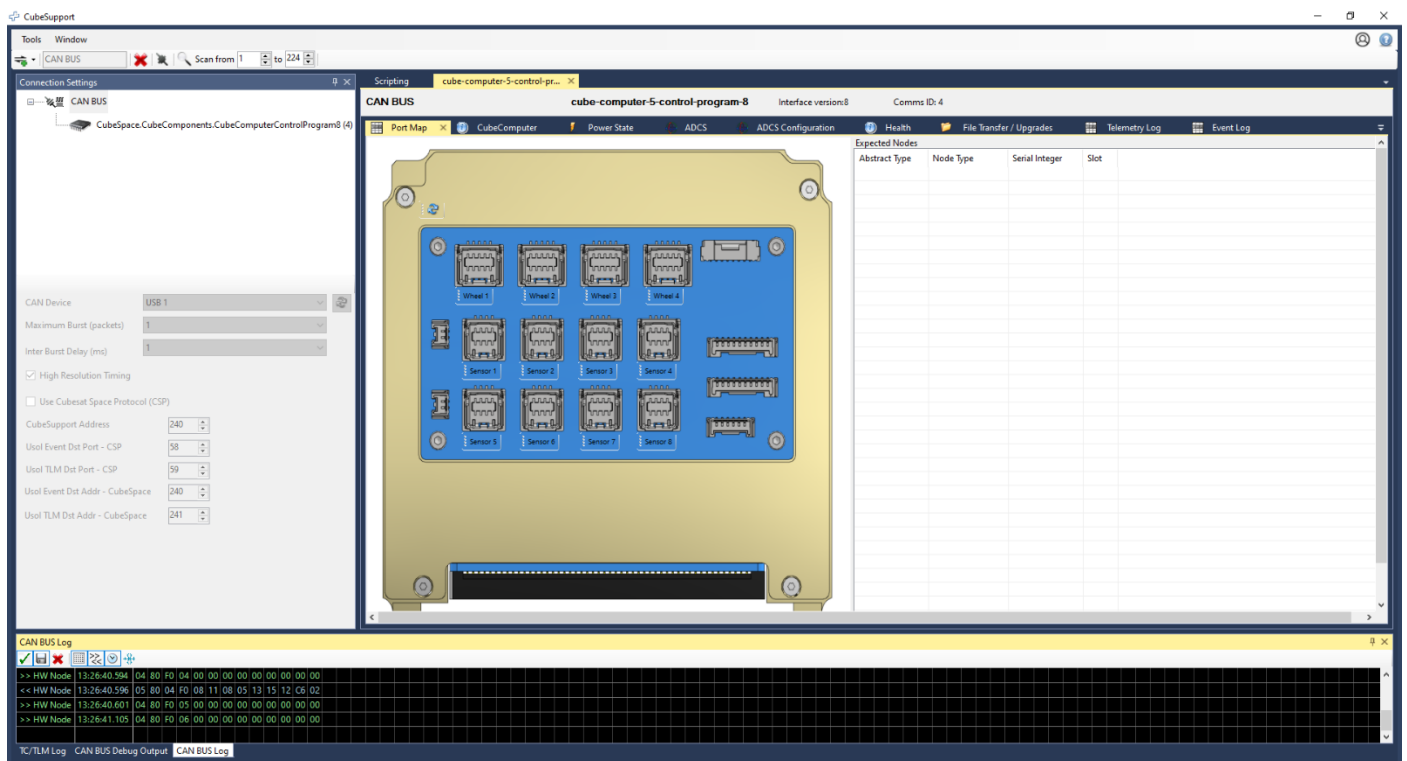
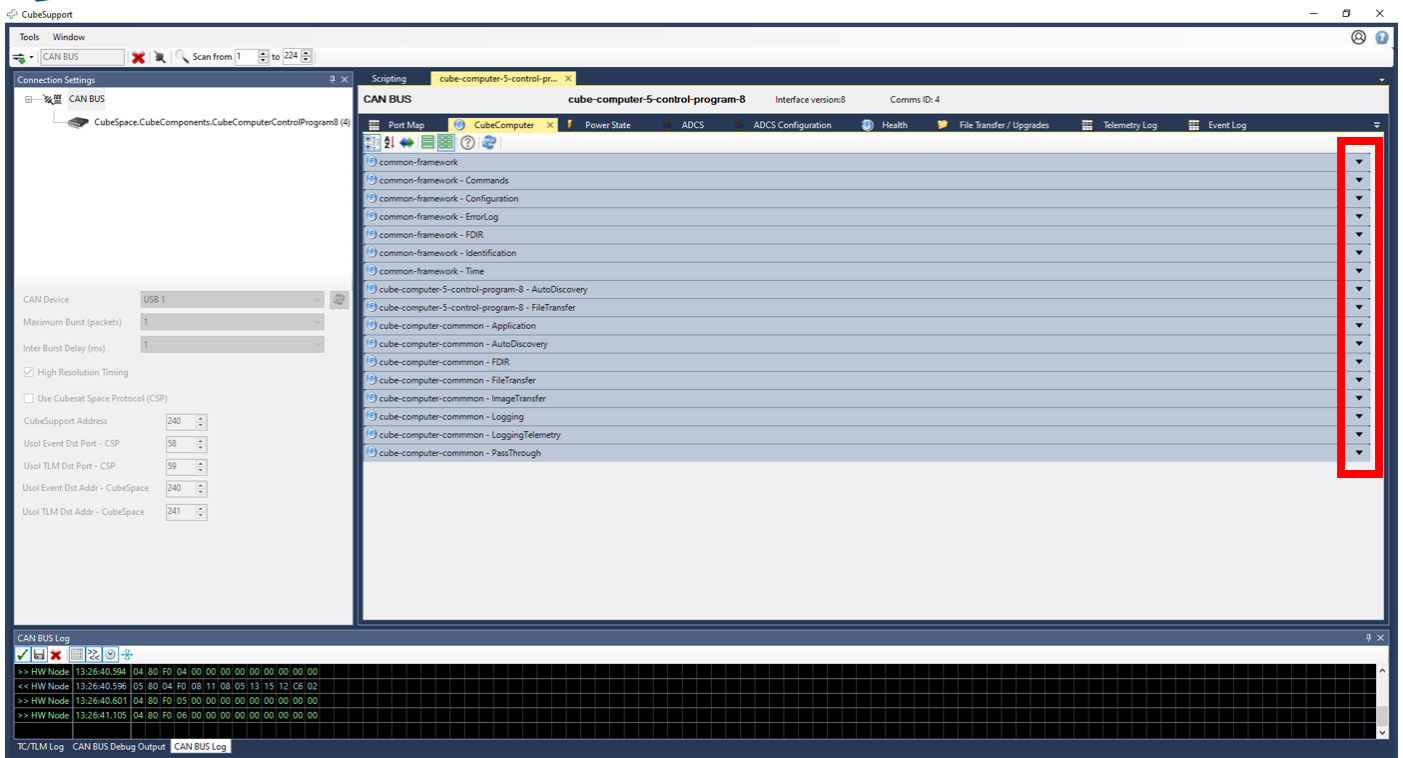

Figure 31: CubeSupport connected to CubeADCS firmware (Control-Program)
Figure 33: Folded sections of the CubeSupport CubeADCS interface
the CubeSupport application will recognise that it is connected to a CubeADCS and will display the appropriate interface, as shown in Figure 31.
TIP: Figure 31 displays the Port Map tab. In most other tabs, fold the sections of the interface for easier navigation, as shown in Figure 33 below.
- 5) Click the connect button . The CubeSupport application will automatically attempt a connection to the CubeADCS by requesting the “Identification” telemetry packet. When the CubeADCS responds, the CubeSupport application will recognise that it is connected to a CubeADCS and will display the appropriate interface, as shown in Figure 31.
- 7) Click the connect button . The CubeSupport application will automatically attempt a connection to the CubeADCS by requesting the “Identification” telemetry packet. When the CubeADCS responds, the CubeSupport application will recognise that it is connected to a CubeADCS and will display the appropriate interface, as shown in Figure 31.